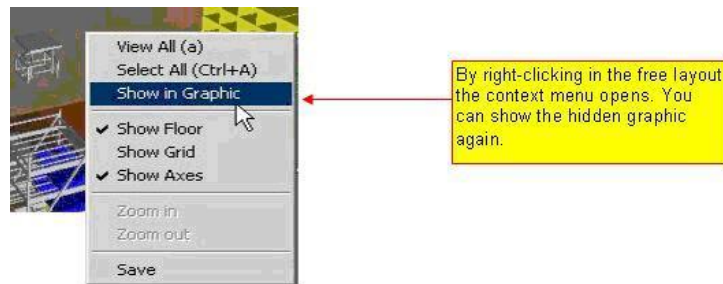

Figure 150: Show in Graphic Context Menu
- 2) It is possible, of course, to show the object again. You can choose from a list of hidden objects, after you have enabled the context menu in the layout. *Please refer to the Figure 150.*